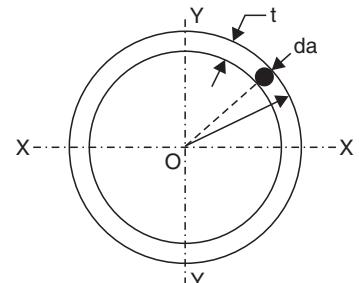

Fig. 8.16
**8. Moment of inertia of a thin ring.** Fig. 8.16 shows a ring of mean radius  $r$  and of thickness  $t$ . Consider an elemental component  $da$  of the lamina. The moment of inertia of this elemental component about the polar axis of the lamina  $= dar^2$ . Since all the elemental components are at the same distance  $r$  from the polar axis, moment of inertia of the ring about the polar axis,